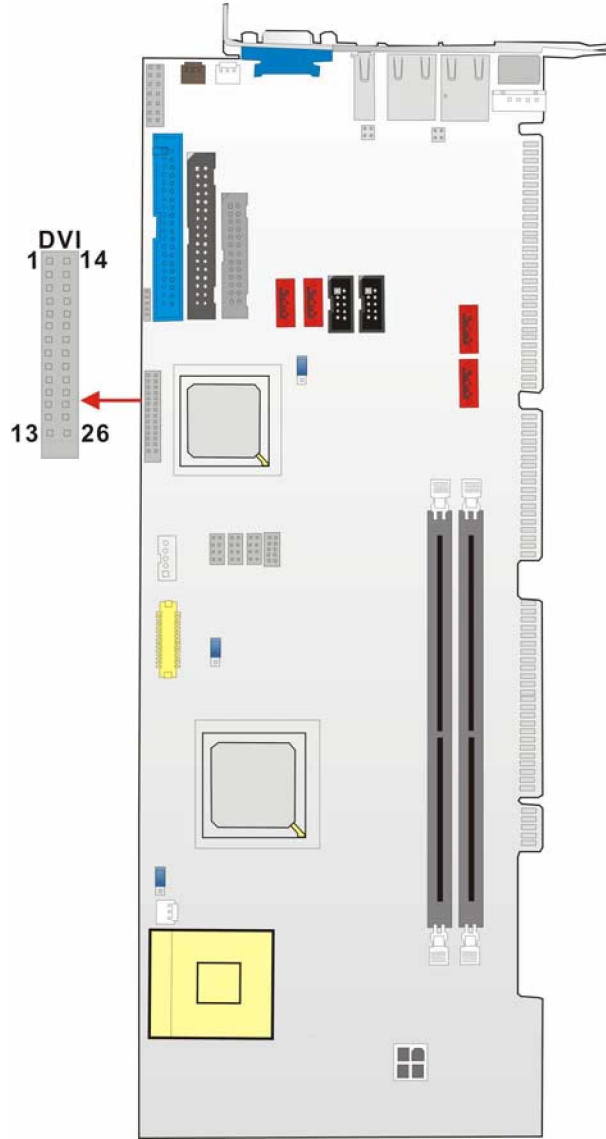

Figure 3-12: DVI1 Connector Location
- CN Location:** See Figure 3-12